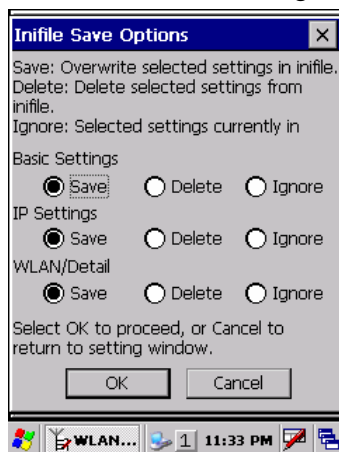

Figure 5.29
8. If **OK** button in the popup warning message (see Table 5.7 for description of NetUI/NetUI radio button) is clicked, the screen in Figure 5.29 appears. Click **OK** button to perform a reset on the terminal so that the setting takes effect.